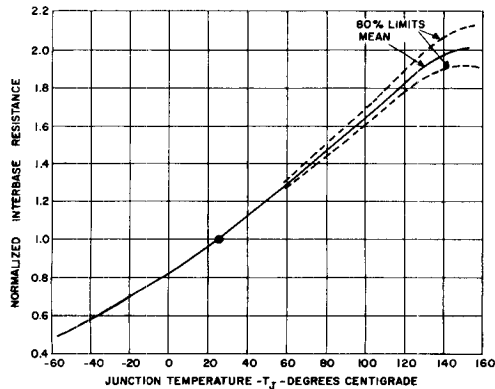

FIG. 10
(4) The interbase resistance is nearly ohmic and increases with temperature in a well defined manner as shown in figures 10 and 11. The temperature coefficient at 25°C is approximately 0.8%/°C.